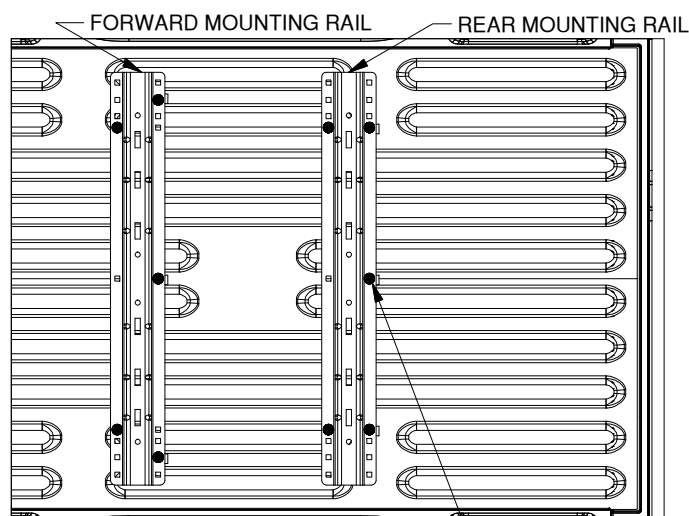

Figure A2: Detail view over bed, showing drill locations for the forward and rear bed rails. DRILL LOCATIONS HIGHLIGHTED BY BLACK DOTS
- 2. Mark hole locations:** While carefully ensuring the mounting rail does not move, use a center punch tool to mark the 5 drill locations on the rear rail. See figure A2 for hole marking locations for this installation (forward rails will install on a later step). Once all 5 rear rail locations are clearly marked, move the bed rail out of the way and drill each location with an 1/8" drill.
- 2. Drill forward mounting holes.** Using the same methods as used for the rear mounting rail, mark and drill the 1/8" holes for the forward mounting rail. Refer to "DRILL REAR MOUNTING HOLES" section, step 2, on a previous page. Notice that the hole locations are slightly different than the rear rail, see figure A2 (on the second page).